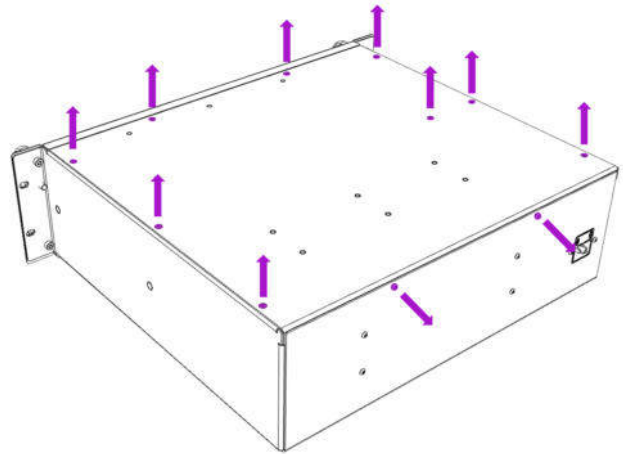

Fig. 10
3. Remove screws of the upper housing lid (Fig.10)